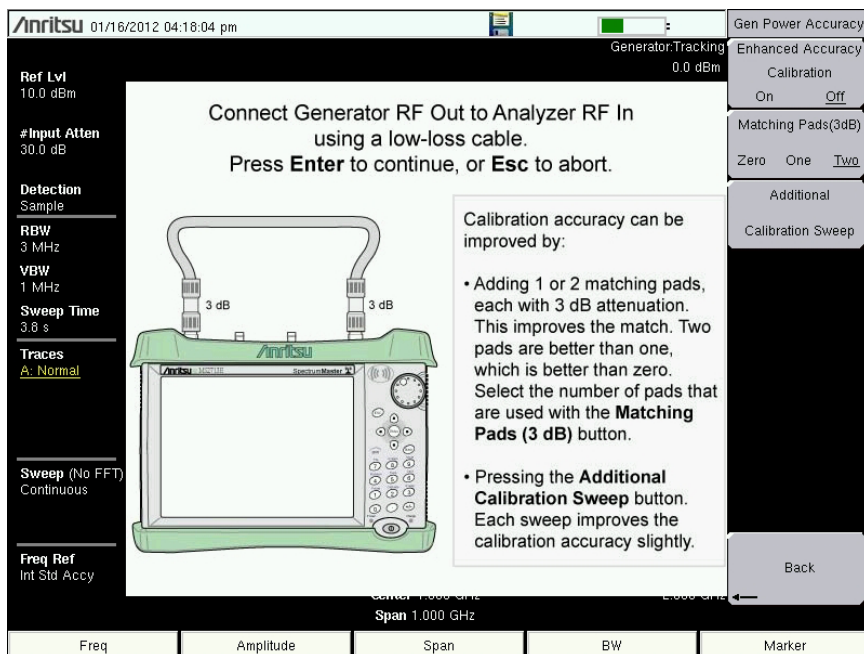

Figure 2-3. Enhanced Generator Accuracy
4. Follow the onscreen instructions shown in Figure 2-3 on page 2-5.